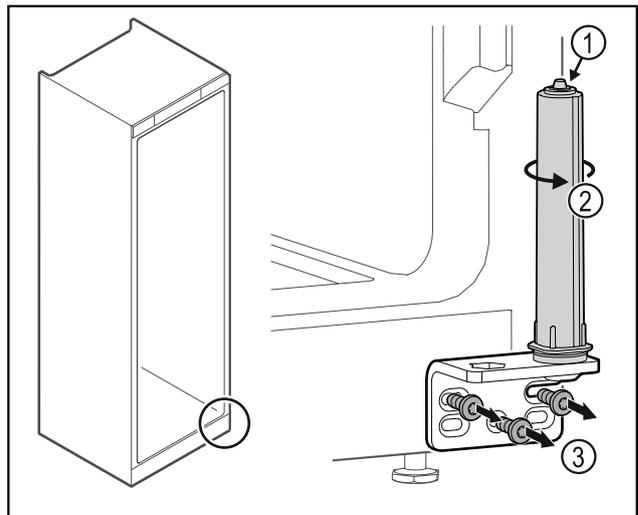

Fig. 24
- Do not disassemble the door closing system Fig. 24 (1).
- Turn the closing system Fig. 24 (2) until it clicks.
- Unscrew the hinge Fig. 24 (3).